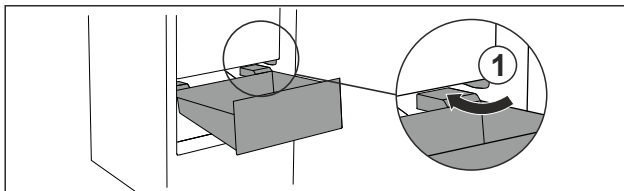

Fig. 31
- ▶ Guide drawer in at an angle around the stoppers Fig. 31 (1).